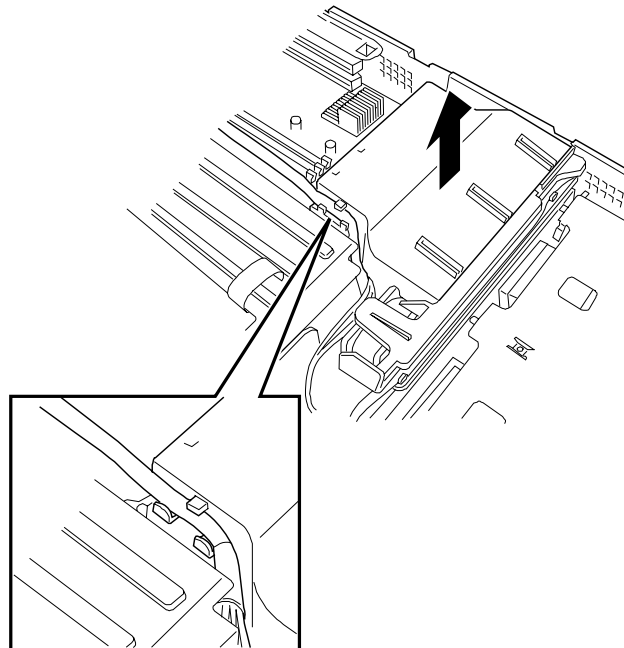

Figure 4-12. Removing the Processor Air Duct
5. Lift up on the plastic processor air duct and remove it from the server. See Figure 4-12.
- 13.** Install the plastic processor air duct removed in Step 5 of this procedure. See Figure 4-12.
9. Install the plastic processor air duct removed in Step 5 of this procedure. See Figure 4-12.